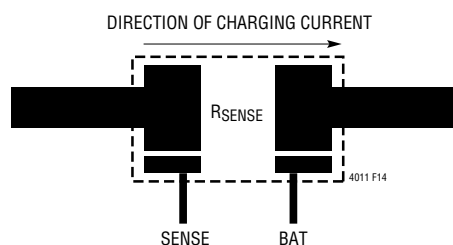

Figure 14. Kelvin Sensing of Charge Current
- For best current programming accuracy, provide a Kelvin connection from R_{SENSE} to SENSE and BAT. See Figure 14 for an example.